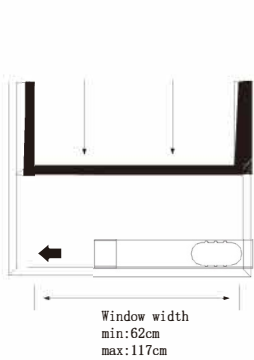
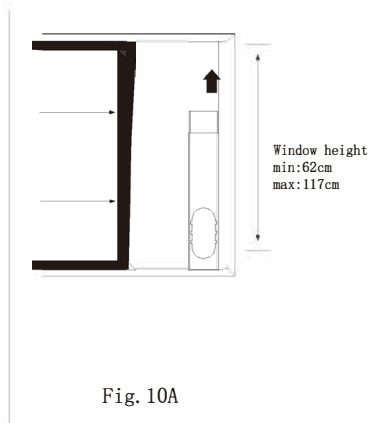

Fig. 10
Fig. 10A
The installation manner of window slider kit is mostly in "horizontal "or "vertical" .As shown Fig 10 and Fig 10a, check the min. and max. size of the window before the installation.
1. Install the window kit on the window(Fig. 10, Fig 10a);